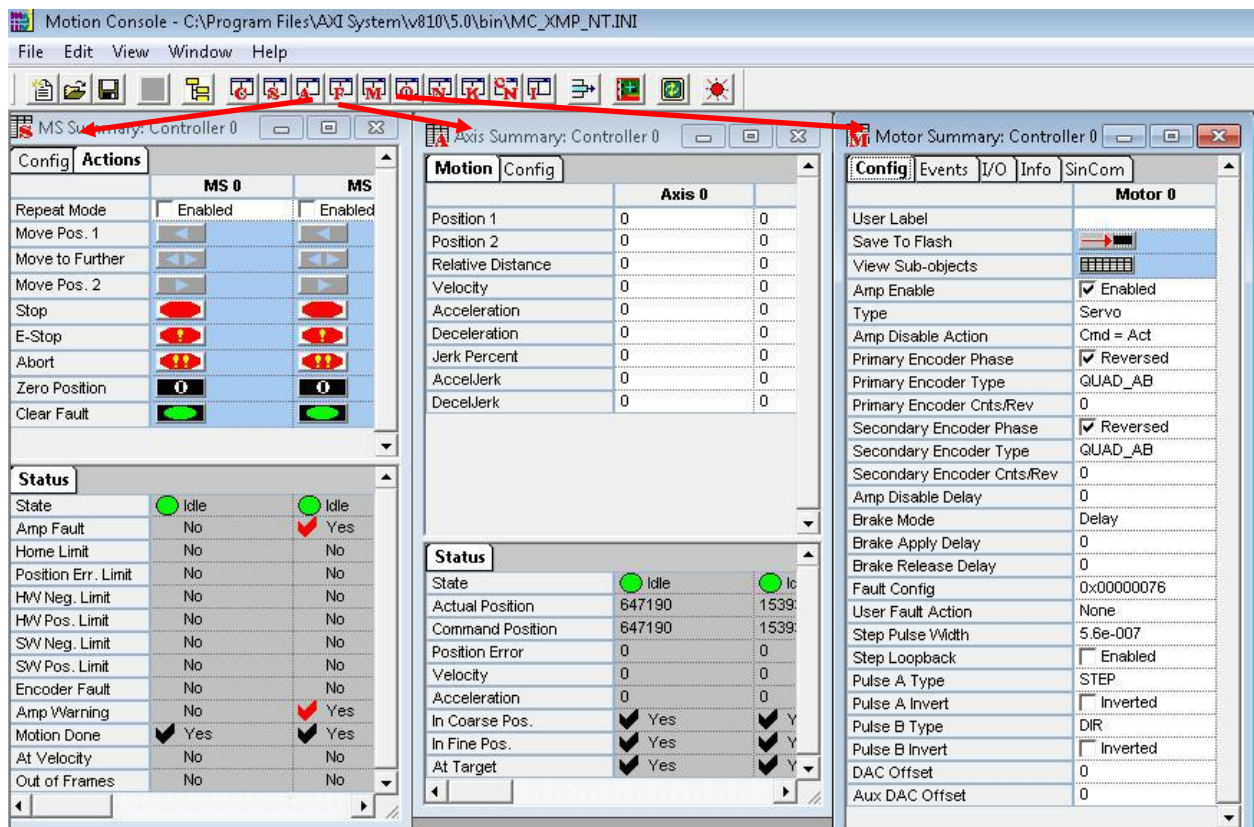

Figure 12 Motion Control Tab
23. Ensure this 3 tab is open in the Motion Console tab as shown in Figure 12.